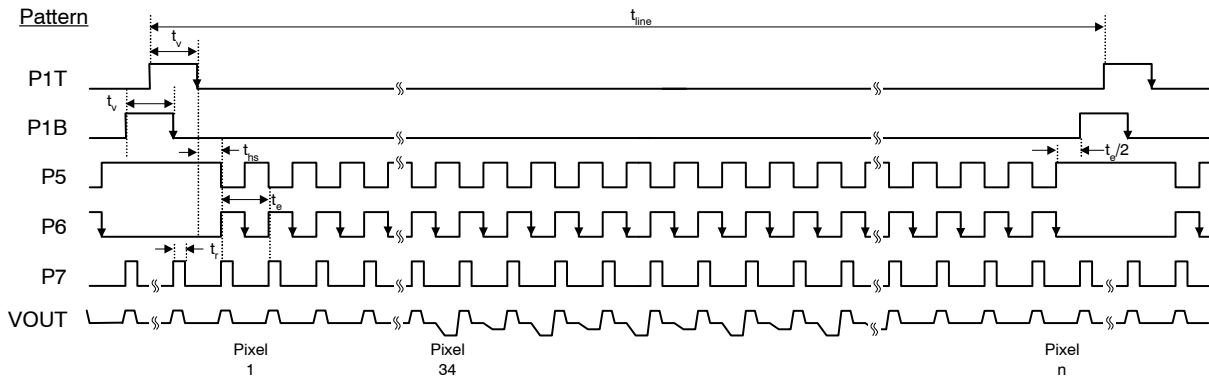

**Figure 21. Photodiode Transfer Timing**
3. Refer to timing diagrams as shown in Figures 21, 22, 23, 24 and 25.
The timing sequence for the clocked device pins may be represented as one of seven patterns (P1–P7) as shown in the table below. The patterns are defined in Figure 21 and